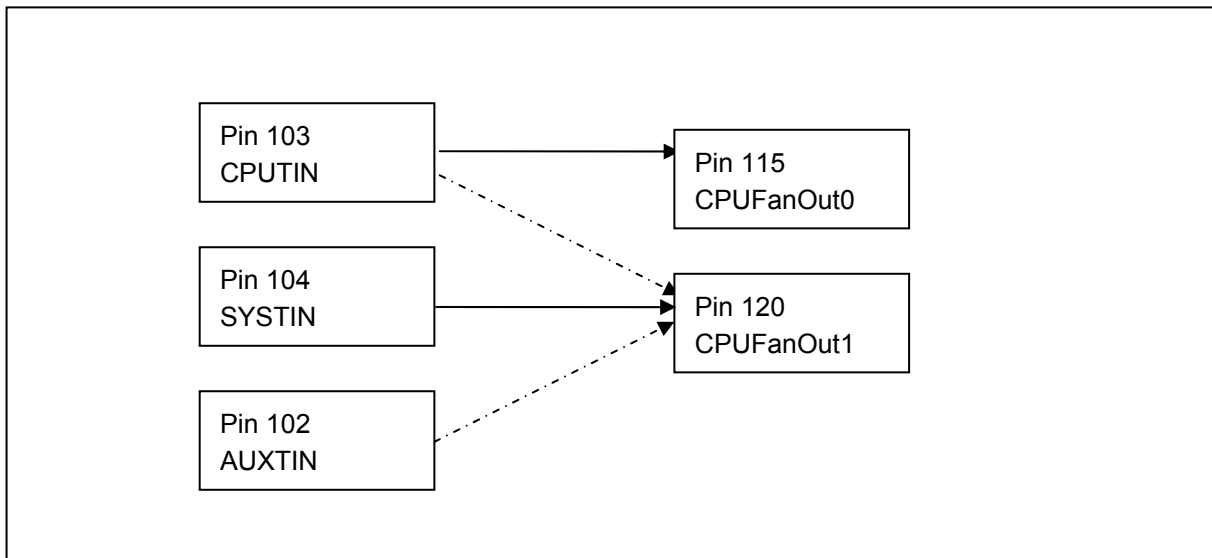

Figure 6.9, 6.10, and 6.11 illustrate SMART FAN™ III mode, and the algorithm of fan speed control is described as follows:
- (1) Figure 6.9 shows the initial condition of SMART FAN™ III. Target Temperature, Temperature Tolerance, Maximum Fan Output and Minimum Fan Output must be set first. If the currently measured temperature is within the (Target Temperature  $\pm$  Temperature Tolerance), the fan speed remains constant.